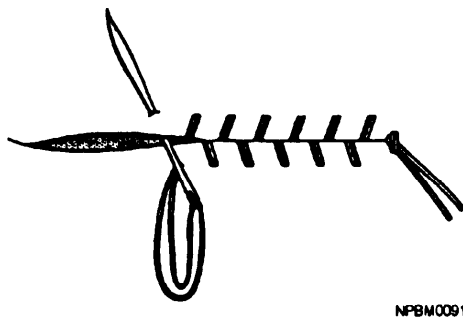

Figure 3-15.—Baseball stitch.
- **Baseball stitch.** The baseball stitch is used to mend tears in light and medium canvas. Figure 3-15 shows how it is done. Keep enough tension